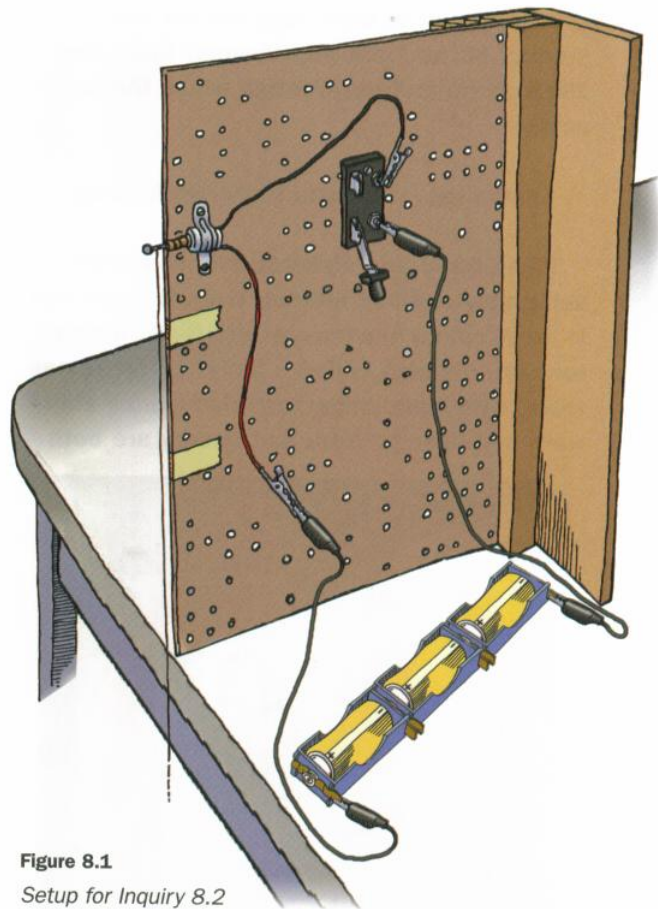

Figure 8.1
1. Set up a pegboard assembly as you did in Lesson 7 (see Figure 7.1). Connect three batteries in series to the motor (see Figure 8.1).
2. Use the tape to mark a vertical distance of 10 cm on the pegboard, as shown in Figure 8.1.
3. Use what you learned in Lesson 7 to attach the string to the motor so the motor exerts the greatest force on the washers. Attach a paper clip to the string so the bottom of the string is below the 10-cm piece of tape, as shown in Figure 8.1.